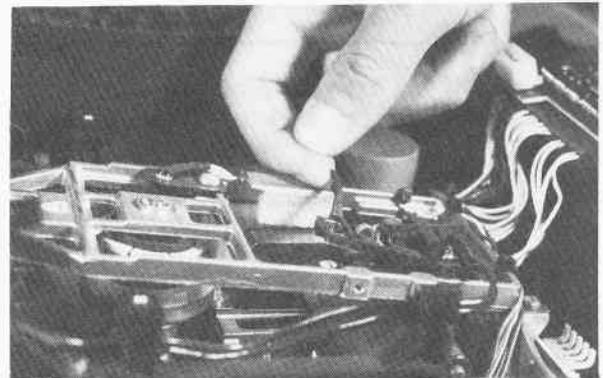

Fig. 4-6. Carefully lift the head load arm to expose the read head below.
12. Carefully lift the black head load arm as shown in Fig. 4-6, and look for discoloration (build-up) on the surface of the pad, or on the read/write head below.
13. Using a special foam or wrapped cotton swab dampened with cleaning solvent, gently rub the head and the pad (see Fig. 4-6).